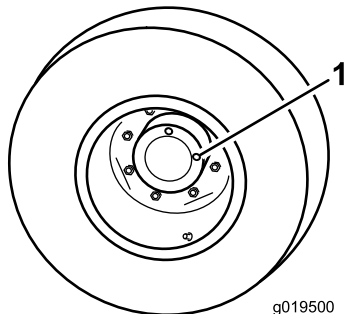

Figure 42
1. With machine on level surface, position the wheel so one check plug (Figure 42) is at the 12 o'clock position and the other is at 3 o'clock position.
1. Check/drain plug (2)
2. Remove the plug at the 3 o'clock position (Figure 42). Oil level should be at the bottom of the check plug hole.